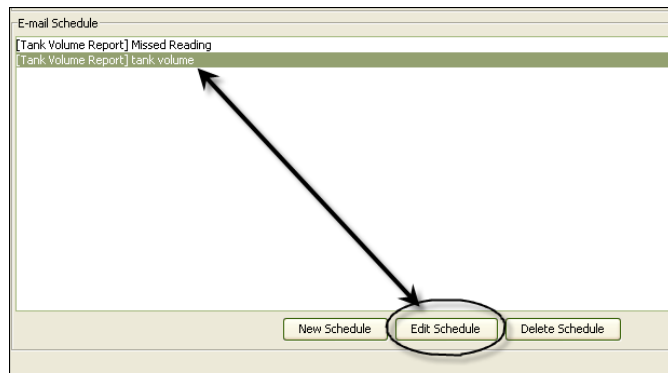

FIG. 158
1. Highlight the e-mail event you want to modify and click the Edit Schedule button shown in FIG. 158.